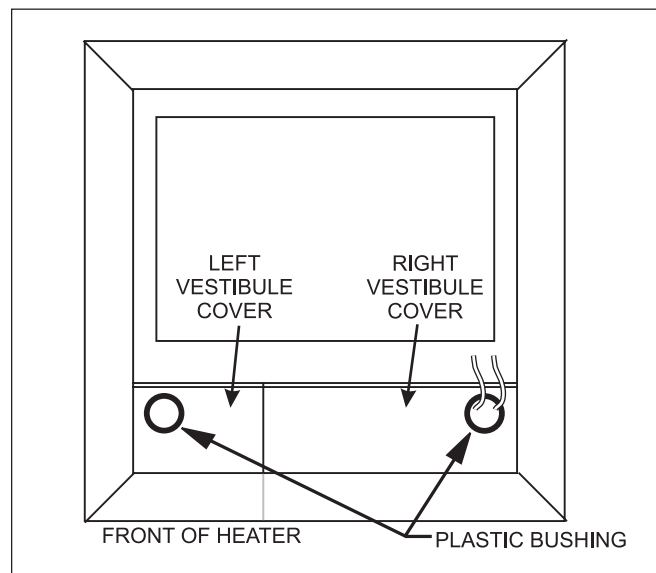

**Figure 8. Flue collector hold-down brackets.**
5. Remove the screws securing the two flue collector hold down clamps and remove the clamps (see Figure 8). Remove flue collector.
2. Connect the wires from the power source to the leads on the right side of the heater in the space behind the ignition control (see Figure 8). Be sure to follow the wiring diagram on page 7 to configure the transformer for the correct input voltage.